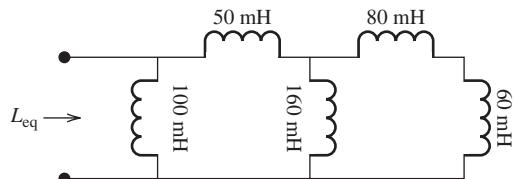

FIGURE P4.45 Inductor network.
- 4.45 (A)*** Find the equivalent inductance of the inductor network of Figure P4.45.